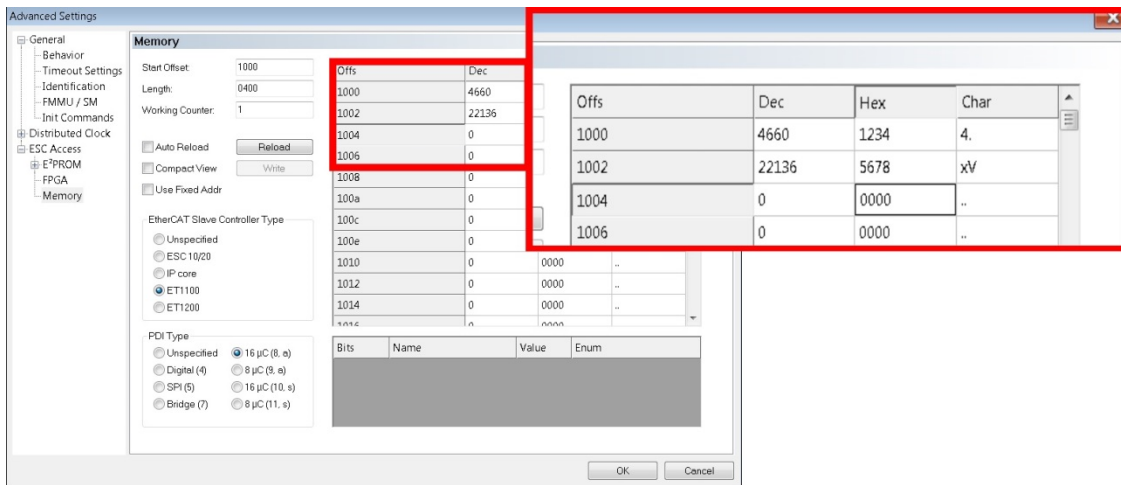

Figure 34. TwinCAT3 Memory Read Window
4. Open up the “advanced settings” window in TwinCAT3 and go to the memory browser at ESC Access → Memory and view Start Offset = 1000h as shown in Figure 34.